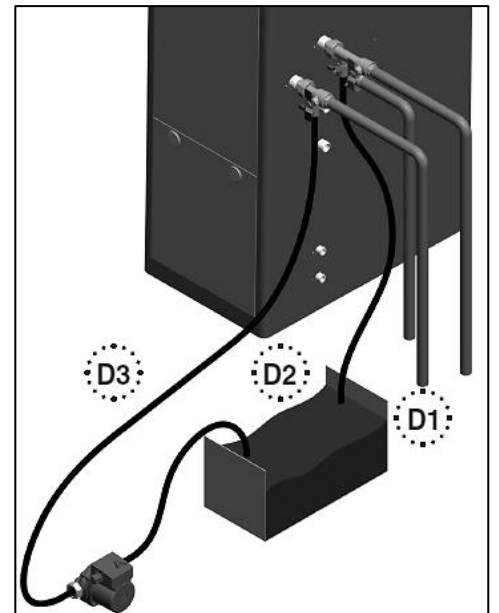

Figure 46 – Hose Connection Detail
3. Connect one hose (D1, Figure 46) to the valve (V3) and place the free end in a bucket. Connect one of the hoses (D3) to the circulation pump outlet and the cold water inlet line to valve V4. Connect the other hose (D2) to the circulation pump inlet and place the free end in the bucket.